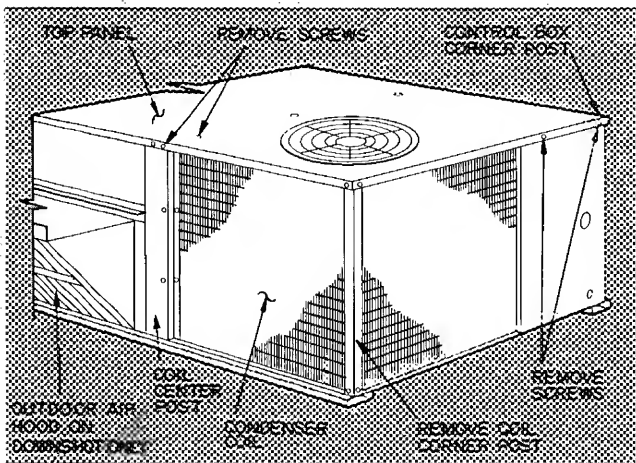
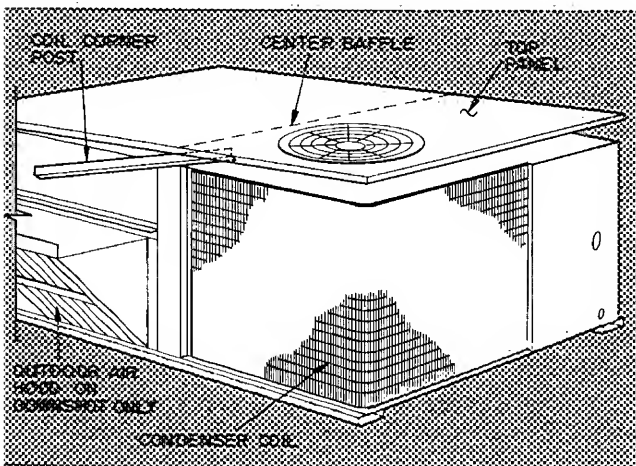

Fig. 32 — Cleaning Condenser Coil
Fig. 33 — Propping Up Top Panel
3. Remove condenser coil corner post. See Fig. 32. To hold top panel open, place coil corner post between top panel and center baffle. See Fig. 33.